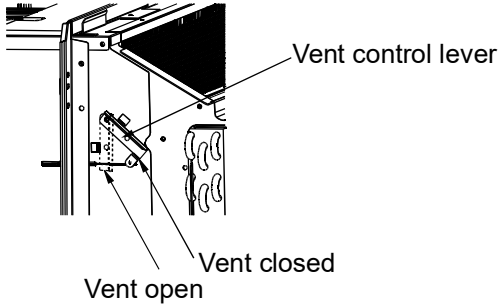

Fig.9
- Rotate the vent control lever to either open or close the vent door.(See Fig.9)